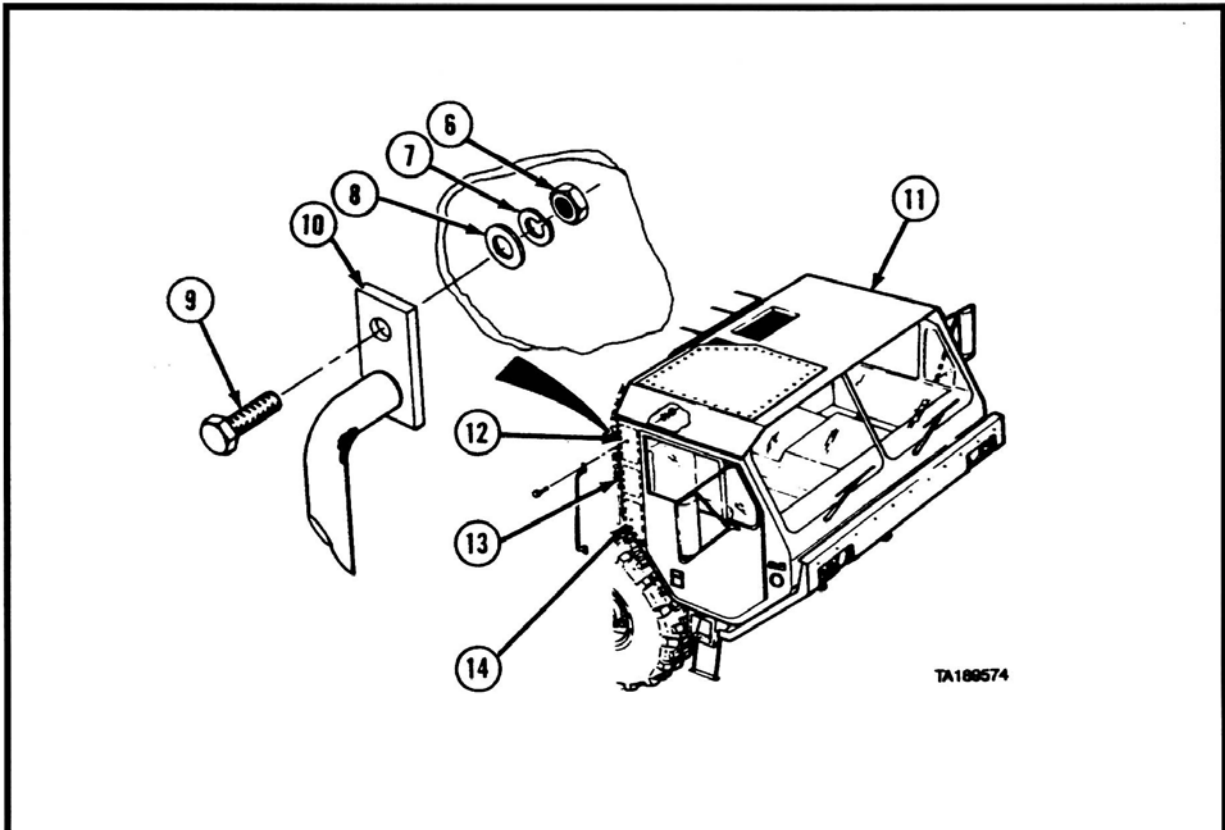

Figure 6. Remove the Side Grab Handles.
- c. Remove two screws (3), washers (4), and nuts (5) from the Skid Plate.
- d. Remove 15 of the 17 screws (6, 7) from the Skid Plate (8), loosening but leaving in two screws (6), one on each side, at the top edge of the Skid Plate (8).
- e. While two personnel hold the Skid Plate, remove the two remaining screws (6), and remove the Skid Plate (8).
- a. Remove the two nuts (Item 6 in Figure 6), lockwashers (7), flat washers (8), and bolts (9) that secure the Side Grab Handle to the cab, and then remove the Side Grab Handle from the cab.